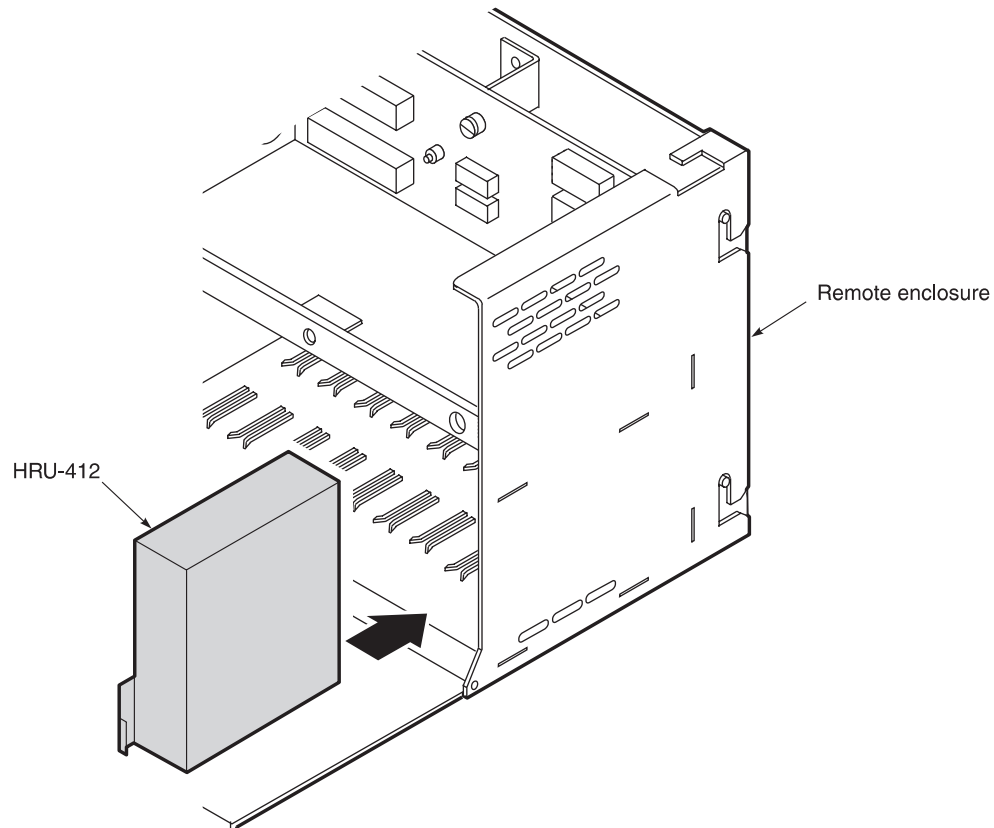

Figure 6. HRU-412 Installed in a Remote Enclosure
- 9.2** To install the HRU-412 (Figure 6):